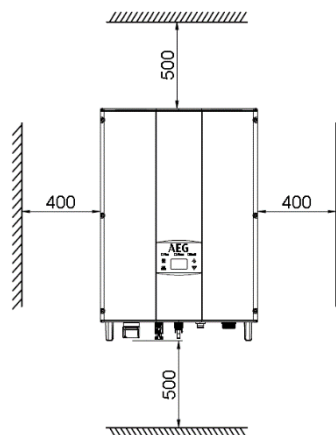

Figure 8B: Installation spacing (mm)
3. Allow sufficient space around the inverter to enable easy installation and removal from the mounting surface as well as air circulation. (see figure 8B).